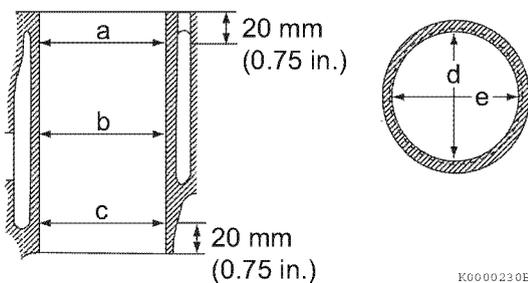

Figure 6-70
- Take measurements at three places (Figure 6-70) (a, b, c), and in two directions (d and e) in each cylinder.